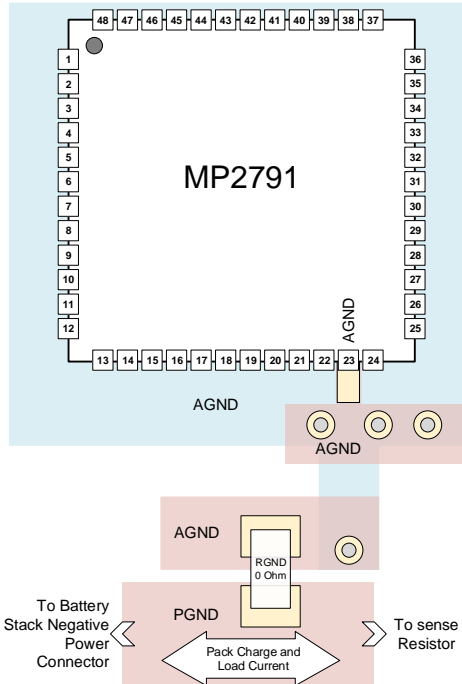
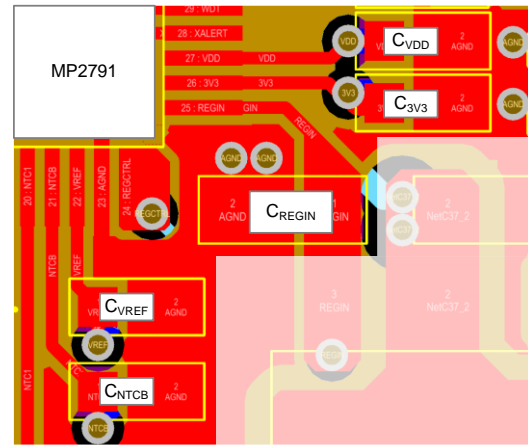
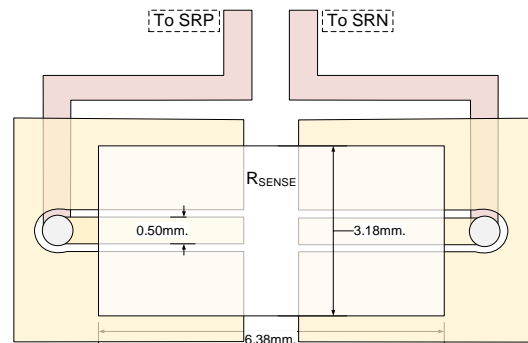

Figure 22: Recommended Layout for AGND
Figure 23: Recommended Layout for Decoupling Capacitors
Figure 24: 2512 Sense Resistor using 4-Wire Footprint
Proper PCB layout is critical to reduce noise, and to optimize the device's accuracy and reliability. For the best results, refer to Figure 22, Figure 23, and Figure 24, and follow the guidelines below:
1. Route the ground plane such that it reduces ground noise and prevents stray current (see Figure 22).
to each pin. Minimize the trace inductance from these pins to AGND (see Figure 23).
6. Consider Kelvin connections at the sense resistor. A sense resistor with a dedicated sensing pad is ideal. A simple two-terminal sense resistor can be used in a 4-wire sensing configuration (see Figure 24).